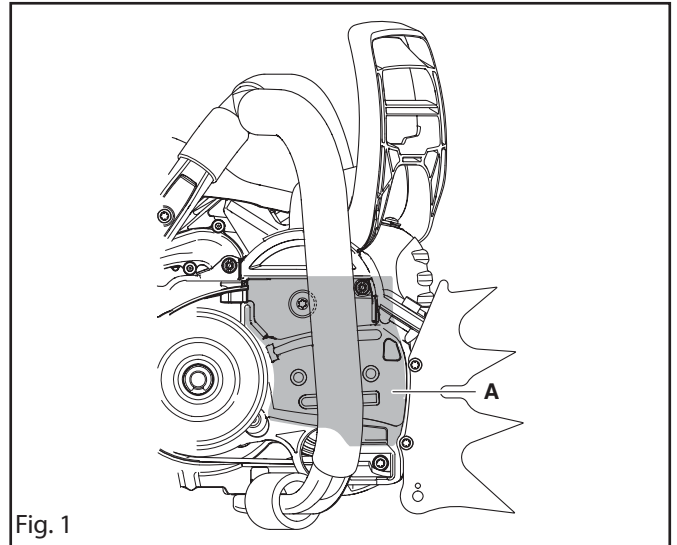

Fig. 1
3. Unscrew the bolt and remove the chain guide plate (A). See figure 1.